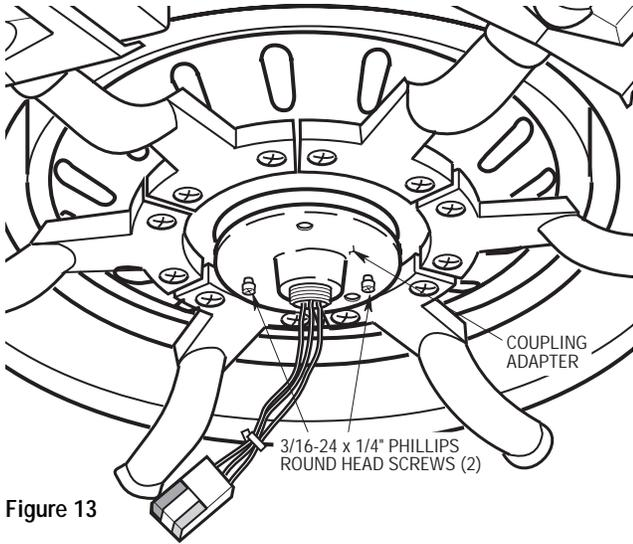

Figure 13
- 3. Partially install two 3/16-24 x 1/4" Phillips round head screws in two of the tapped holes in the coupling adapter (Figure 13). Leave two or three threads untightened.